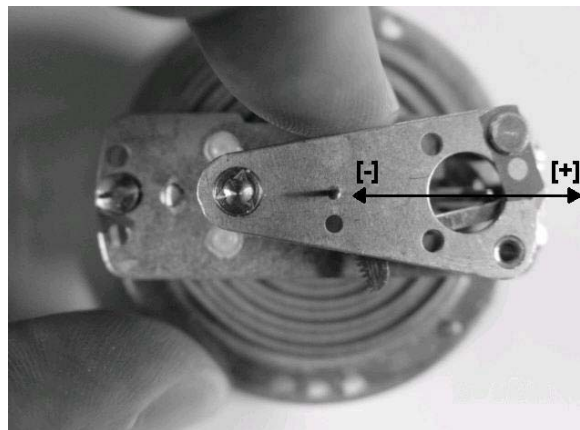

Figure 3-10. S&K span adjustment.
22. If the span is too high, using calibration tool (T18816), bend the adjustment pin towards the pinion parallel to the gear sector when pressurized at 300 mmHg. Change the pressure to 0. Make sure to re-adjust the test dial so that the pointer will be slightly left of the graduation line. Re-pressurize to 320 mmHg then to 300 mmHg to evaluate effects of adjustment. See Figure 3-10.